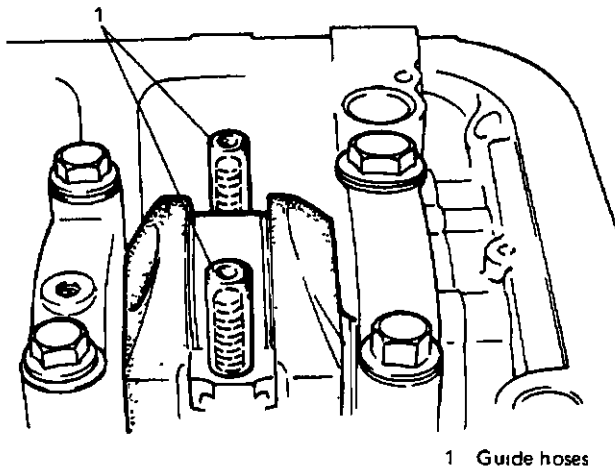

Fig. 3-6-18 Guide hoses installation
① Apply engine oil to pistons, rings, cylinder walls, connecting rod bearings and crankpins.
② Put guide hoses over connecting rod bolts as shown in Fig. 3-6-18. These guide hoses protect crankpin and thread of rod bolt from damage during installation of connecting rod and piston assembly.